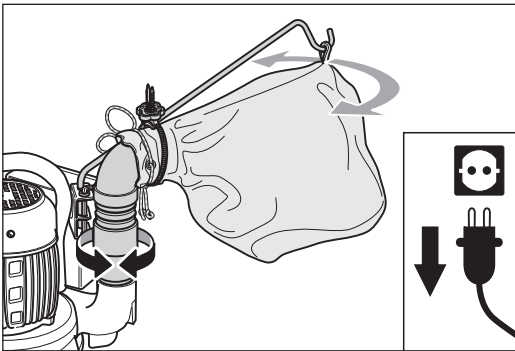

Fig. 7 The pressure hose can also be rotated at the lower plastic pipe stub.
- 1 On the pressure hose, grab the black plastic pipe stub below the hose piece and rotate it toward the desired side. The dust bag will swivel with the black plastic pipe stub (Fig. 7). Do not use the upper curved pipe piece to rotate the pressure hose.